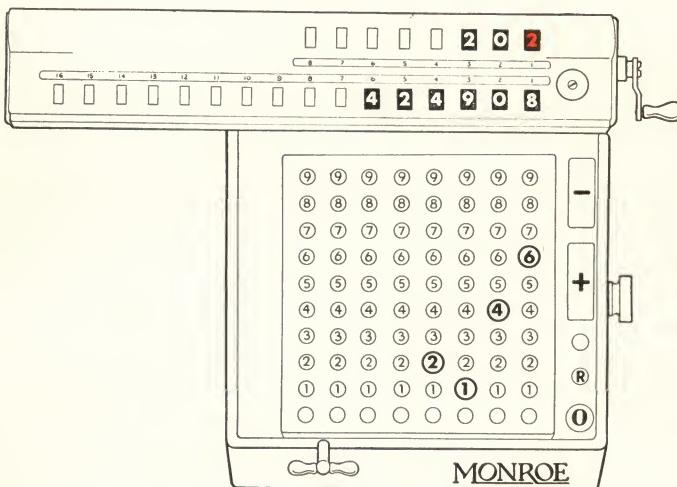

Figure 13
Step 2—Then move the carriage to the left two places so that it is in the “1” position. With the minus bar subtract twice. The answer, 424908, will then appear in the lower dials. In the upper dials will be 202, i.e., 200 less 2. See Figure 13.